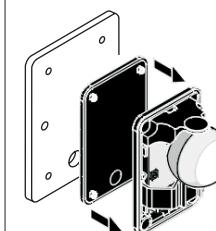

Fig. 4
- 4 - Assemble the fixing plate, the seal and the photocells (Fig. 4);